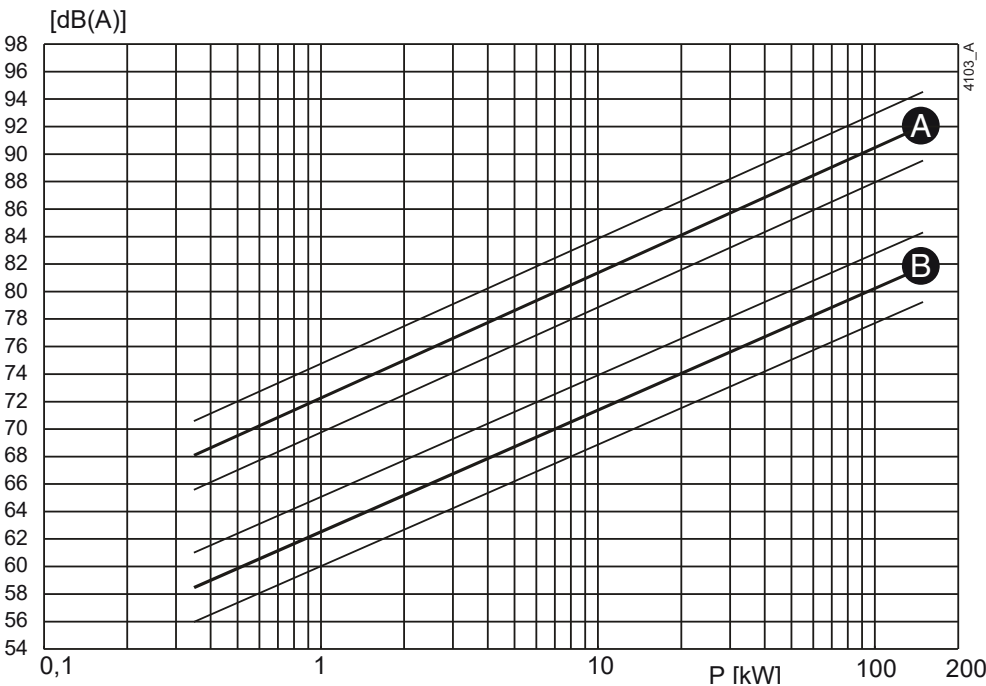
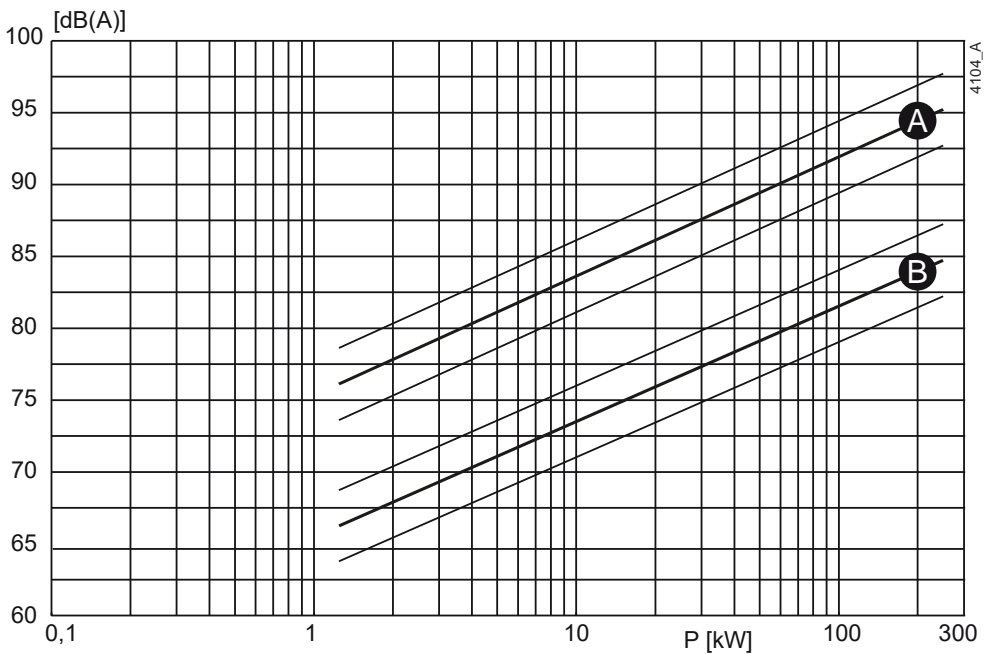

Figure 40: Noise level as function of pump power [kW] at 1450 min⁻¹
Figure 41: Noise level as function of pump power [kW] at 2900 min⁻¹
- 1 Determine the noise level (L_1) of the pump, see figure 40 or figure 41.